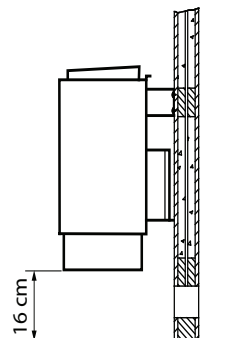

Fig. 6
4. Hang the sauna oven onto the wall bracket with the receptacle slits on the back wall, and lay it against the distance holder. (Fig. 6).